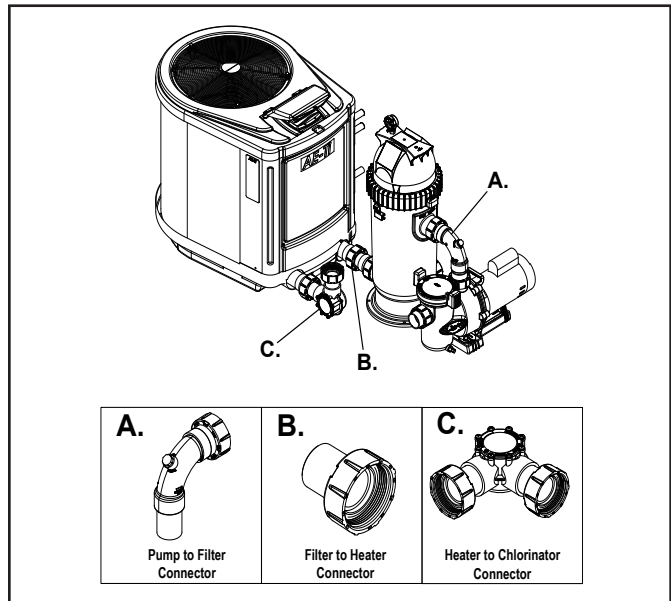

Figure 6. CS Standard Equipment Pad
3. Connect the pump to the suction lines (pool only or pool/spa combo) using CPVC cement and primer. The length of pipe into the suction port of the pump should be a minimum of four (4) times the pipe diameter.
4. Use CPVC cement and primer and connect the pump to the filter using the sweep elbow with the $\frac{1}{2}$ " NPT plug component of the kit, marked as "A" in figure 6. This positions the filter.
5. Use CPVC cement and primer and connect the filter to the heat pump using the flange tail piece with union nut, marked as "B" in Figure 6. Use CPVC cement and primer and glue the flange tail piece directly into the standard tail piece on the heat pump inlet port. This positions the heat pump.
6. Attach the check valve (marked as "C" in figure 6) to the outlet of the heat pump making sure the flow arrow points in the correct direction.